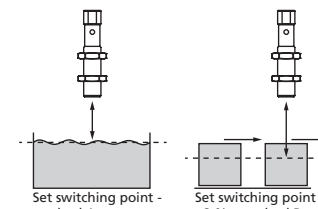

Fig. 4: Setting the switching point for different directions of movement of the object
■ In the »Set switching point - method A« Teach-in procedure the actual distance to the object is taught to the sensor as the switching point. If the object moves towards the sensor (e.g. with level control) then the taught distance is the level at which the sensor has to switch the output, see Fig. 4.
■ If the object to be scanned moves into the detection zone from the side, the »Set switching point +8 % - method B« Teach-in procedure should be used. In this way the switching distance is set 8 % further than the actual measured distance to the object. This ensures a reliable switching distance even if the height of the objects varies slightly, see Fig. 4.